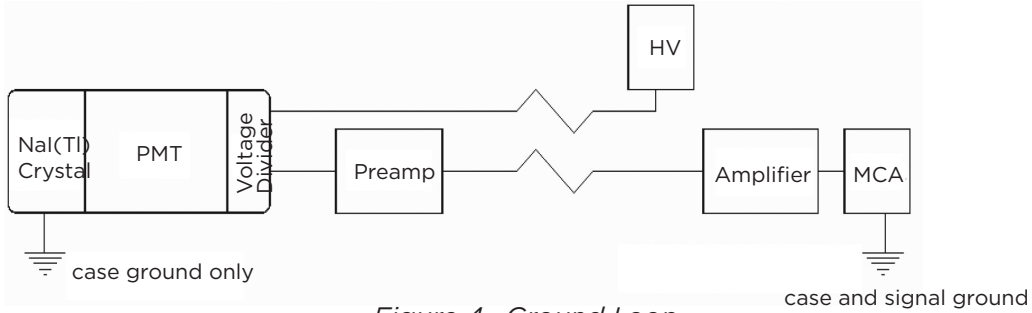

Figure 4. Ground Loop
The block diagram (*Figure 4*) shows the normal ground configuration in a system with a sensor or probe at some distance from the readout electronics:
1) The signal ground is connected to the earth ground at the readout end of the system only. The HV, amplifier and MCA grounds are all connected through the power plugs to a local ground. See *Figure 4*.